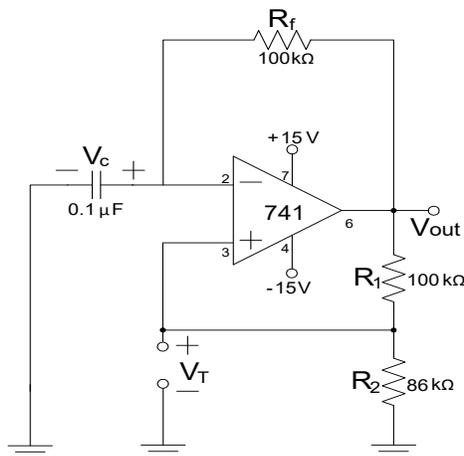

Fig 6.3
A free running or astable multivibrator is a square wave generator. The circuit of fig.6.3 is a multivibrator circuit. The resistor R_1 and R_2 form a voltage divider to feedback a fraction of the output (V_o) to the (+) input. When V_o is at $+V_{sat}$, the feedback voltage is called the upper-threshold voltage V_{UT} , where,
- 1) Complete the circuit of figure 6.3.